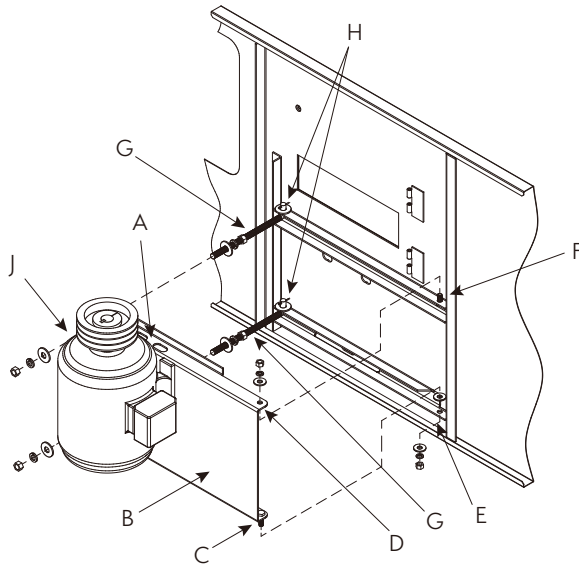

Figure 17a – External Motor Installation
All units narrower than 10' (3m) wide have their motors installed outside the unit in a shaft up configuration as shown in **Figures 17a** and **17b** below. Due to shipping width restrictions, these motors cannot ship mounted on the units since they would extend past the width of the truck. For this reason, the motor(s), motor base(s), motor guard(s), J-bolts, pivot pins and belt(s) are shipped in the cold-water basin of the cooling tower. Please follow the step-by-step instructions below to properly install these components.
1. Study **Figure 17a** above before installing the motor base on the unit.